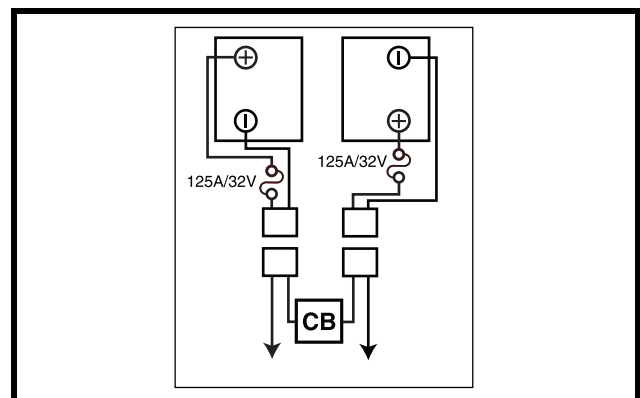

Figure 14. Battery Wiring Diagram
6. Place a new battery in each battery well. Face the battery terminals of each battery away from the seat post. See figure 14.